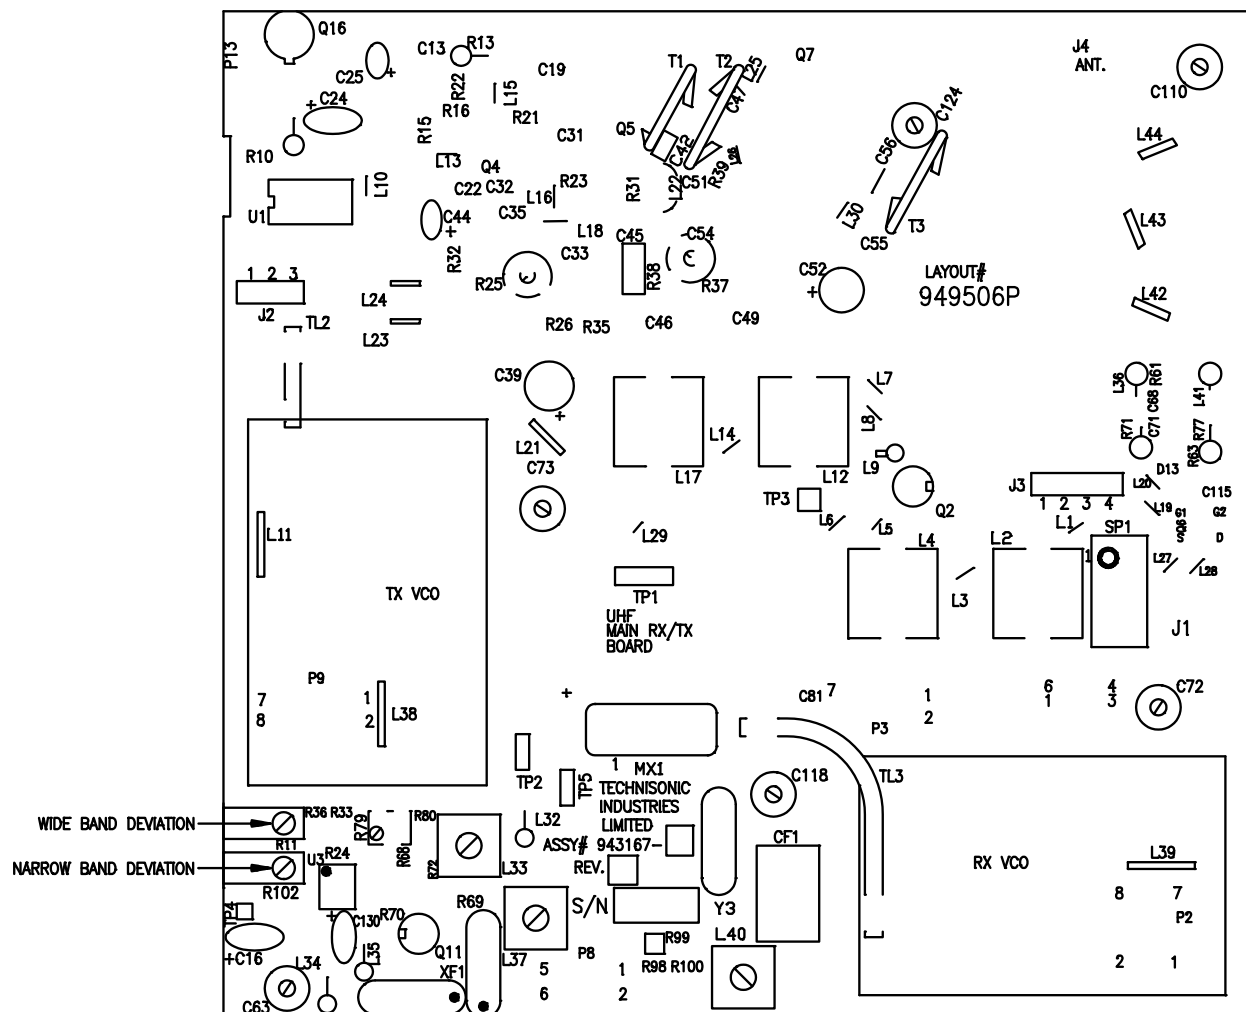

FIGURE 3.5 Deviation Adjustment Potentiometer Location
1. Remove and retain the eight (8) No. 4-40 screws securing the top cover of the transceiver to its chassis. You should now have access to the Main Rx/Tx Module.
4. Adjust the deviation limit potentiometer, R11 on the main Rx/Tx module (see Figure 3-5) to produce a ± 4.2 kHz deviation (with no CTCSS or DPL codes enabled).
6. Adjust the deviation limit potentiometer, R102 on the main Rx/Tx module (see Figure 3-5) to produce a ± 2.1 kHz deviation (with no CTCSS or DPL codes enabled).
8. Place top cover on transceiver chassis and secure all eight (8) screws.